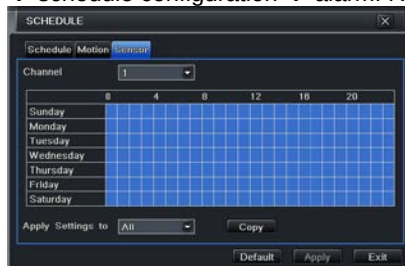

Fig 4.17 Schedule Configuration - Sensor
Step 1: Enter into system configuration → schedule configuration → alarm. Refer to Fig 4.17.